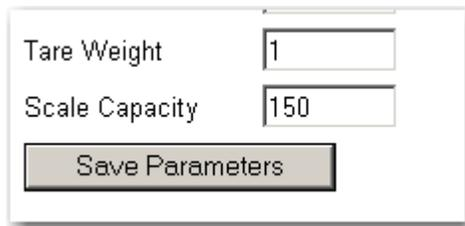

FIG. 234 INSTRUMENT SETUP/ENTERING TARE WEIGHT
- Step 8. Type in the Capacity of the scale to which the instrument is connected. (See Fig. 234)